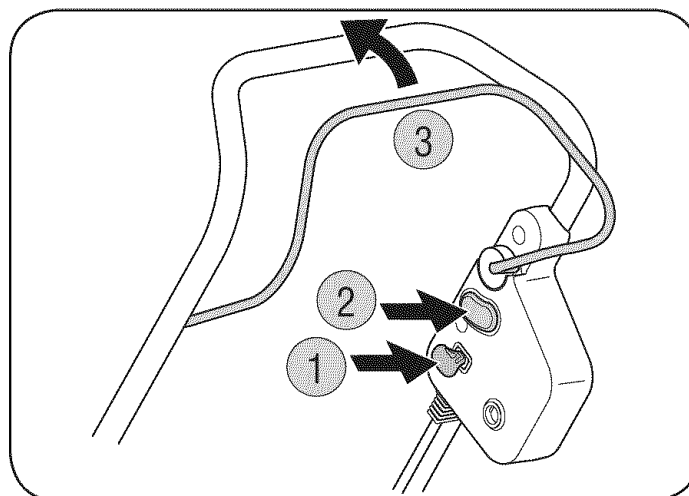

Figure 8
1. Insert key. Refer to Figure 8.